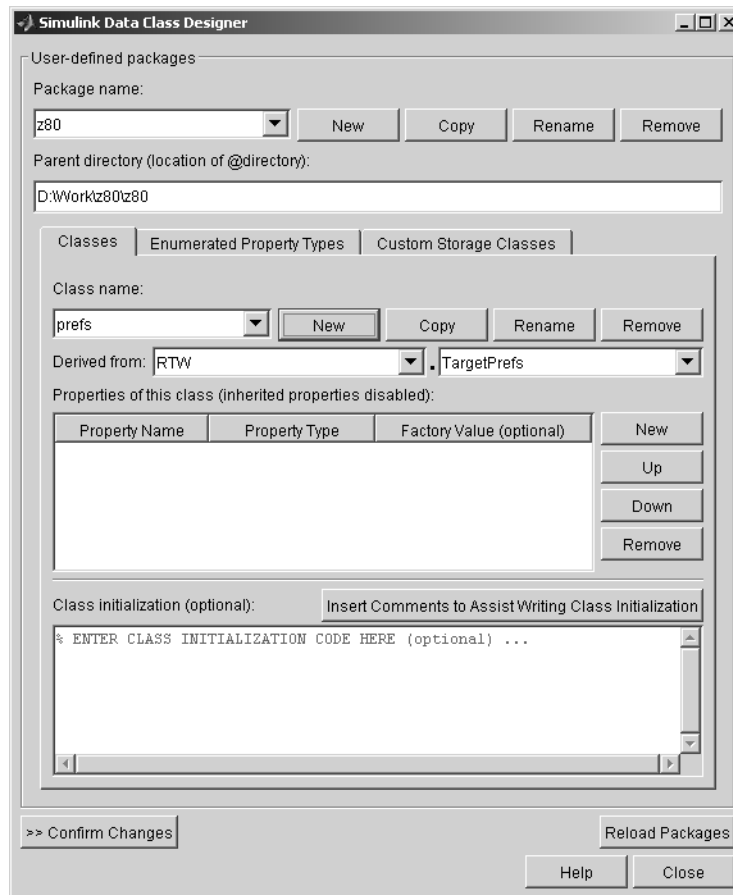

Figure 8-1: Package and Class Definitions for z80.prefs Target Preferences Class
- 7 At this point, the **Data Class Designer** dialog box will resemble Figure 8-1 below. Note that the list of properties in the **Properties of this class** field is empty. This is because the RTW.TargetPrefs parent class provides only methods, not properties.